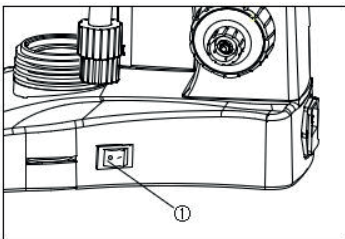

Fig.8
2.2.5 Connecting the power cord (Fig.8, 9,10)
2.2.6 Replacing the Fuse (Fig.8 - 9 - 10)